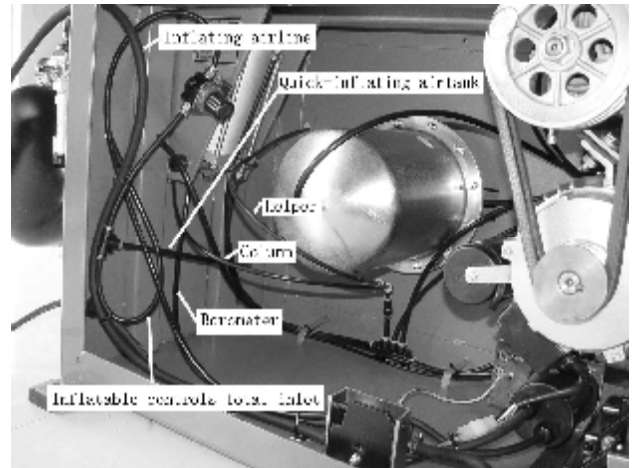

Fig.09
- I Find air compressing hoses out from the post , supplementary arm and air-tank, insert them into joint respectively. (Fig.09)